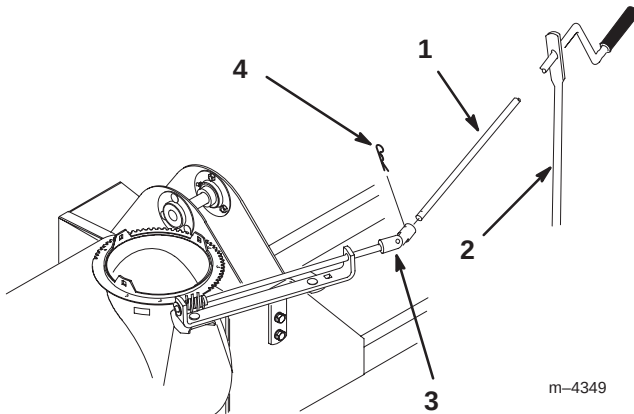

Figure 27
- Remove the chute control rod by removing the hairpin cotter connecting it to the universal joint (Fig. 27).
- Slide the chute control rod out of the end of the crank support (Fig. 27).